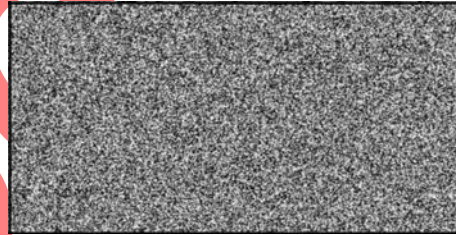

Figure 7
1. Remove and check breather reed (A, Figure 7). If the reed is worn or bent, it cannot function properly and must be replaced.